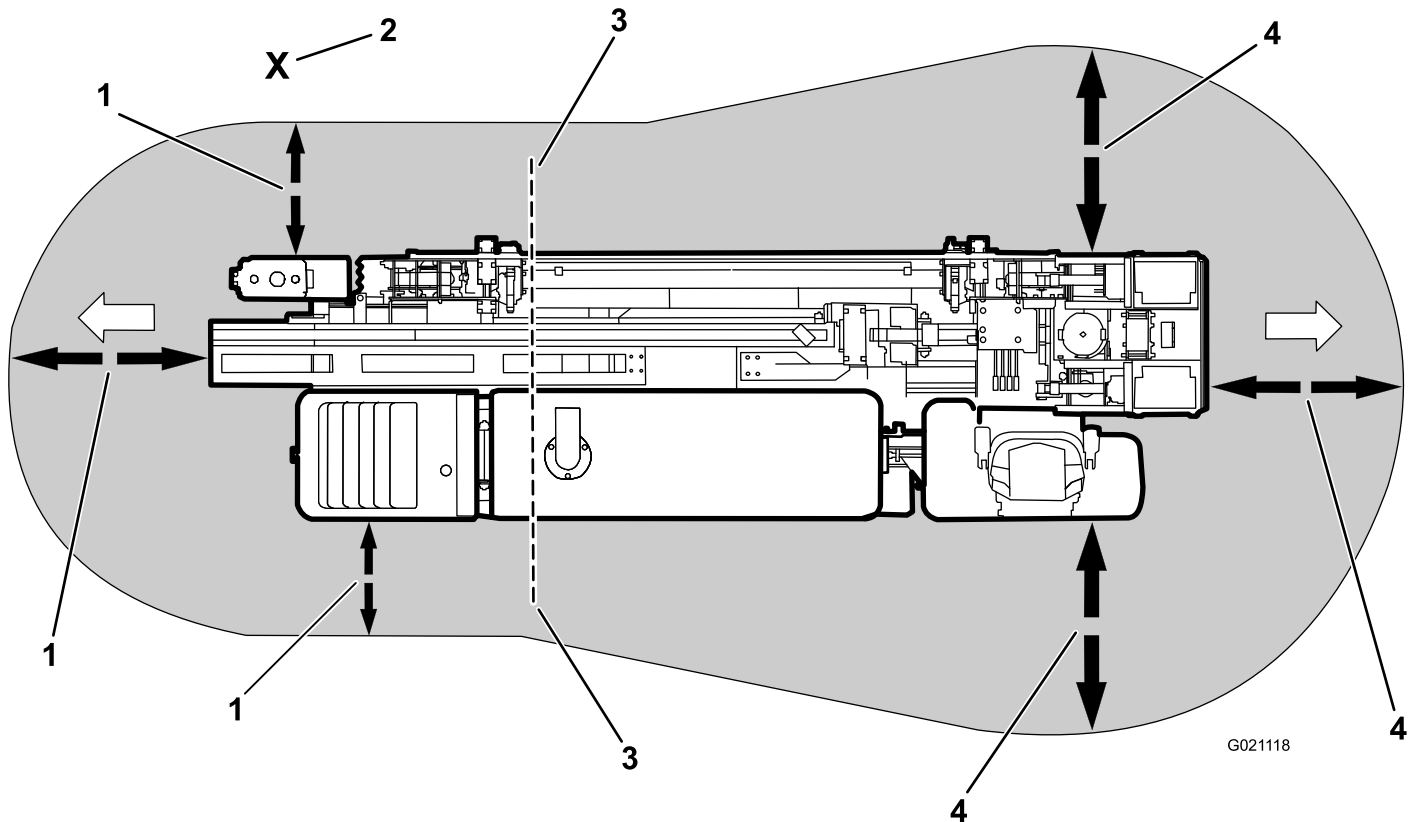

Figure 1
- Operate the drive pendant alongside the machine outside of the danger zone (Figure 1).